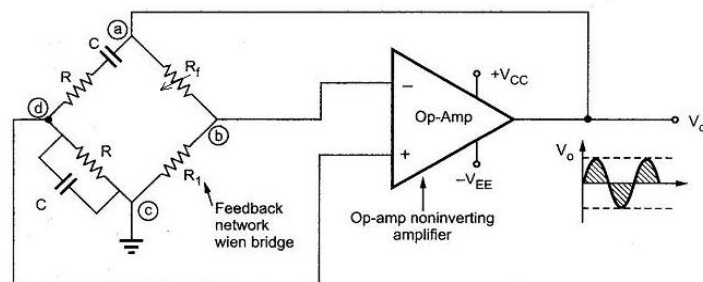

Figure 14.1: Circuit diagram of wien bridge oscillator
2. Connect the circuit as per the circuit diagram show in fig 14.1.